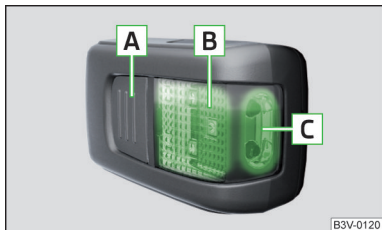

Fig. 155
Description of the light » Fig. 155
- » To **switch on** the removed light, press button **A** » Fig. 155. Pressing the light again will **switch it off**.
If the light is not switched off and is correctly inserted in the mount, the LED diodes in the front part of the light **C** » Fig. 155 are automatically switched off.